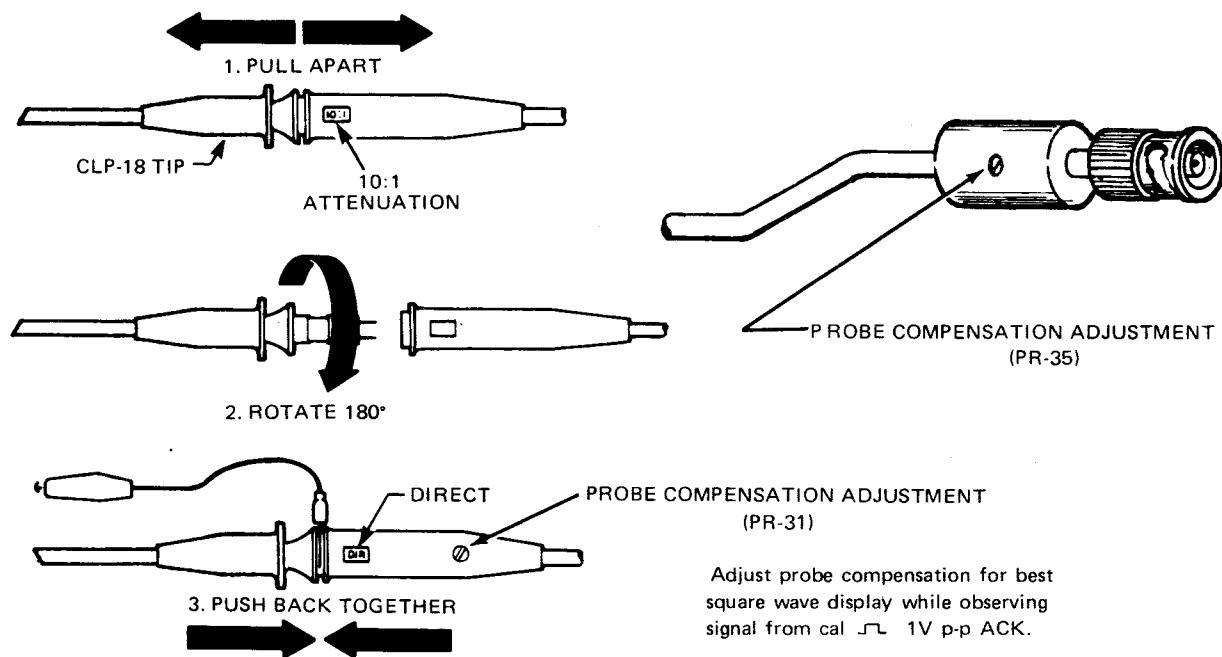

Fig. 3. Probe details.
2. For all except low-amplitude waveforms, the probes are set for 10:1 attenuation. For low-amplitude waveforms (below 0.5 volt peak-to-peak), set the probe for DIRect. See Fig. 3 for changing the probes from 10:1 to DIRect, or vice versa. The probe has a 10 megohm input impedance with only 18 pF shunt capacitance in
3. If the recommended B & K-Precision Model PR-31 oscilloscope probes are used, 10 : 1 attenuation should be used except for waveforms of 0.5 volt peak-to-peak or less. For the lower amplitude waveforms the DIRect position should be used. See Fig. 3 for changing the probe from 10:1 to DIR or vice versa. Whenever possible, use the high impedance, low capacity 10:1 position to minimize circuit loading.